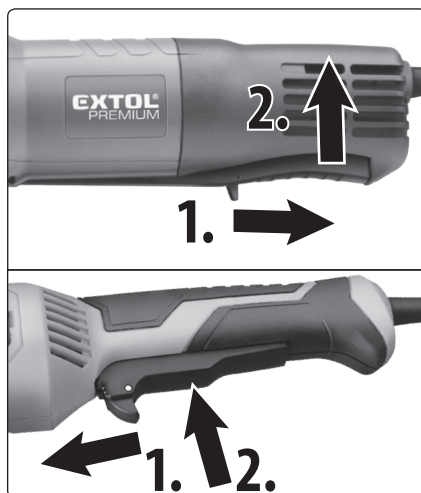

Fig.15; step 1, unlocking, step 2, starting
- The angle grinder may have a trigger switch on the underside of the main handle, where pressing the trigger switch must be preceded by unlocking the trigger switch as shown in fig. 15, steps 1 and 2. This trigger switch design is namely present on larger and large angle grinders, and for safety reasons, it is not possible to lock the trigger switch in the „on“ position.